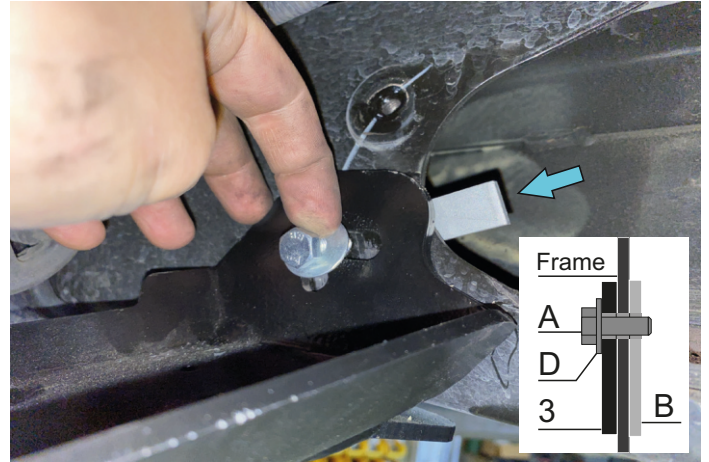

Fig.10
10. Place M8x65 insert nut (item B) and secure the right side of the rear mounting bracket (item 3) using M8x30 bolt (item A) and M8 flat washer (item D) as shown in fig.10.